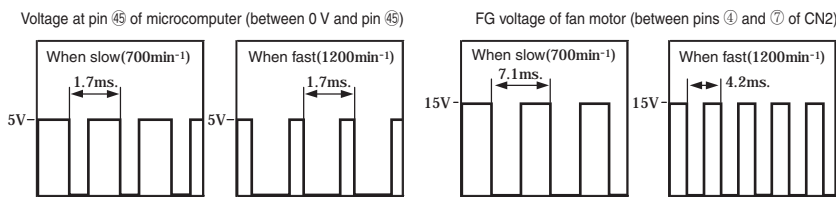

Fig. 3-2
- The VS receives a command voltage from the microcomputer (IC601). The VS terminal undergoes an analog voltage that matches the Lo level time ratio of the pulse signal from pin ④5 of the microcomputer. (See Fig. 3-2.)